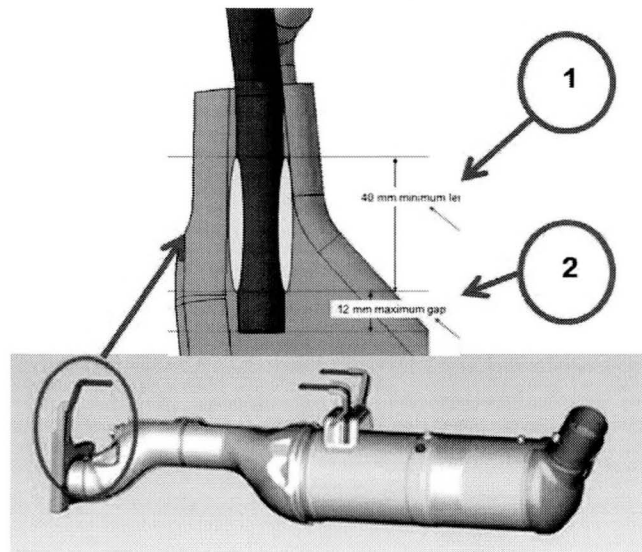

Fig. 1 SCR Hanger Bracket
2. Locate the SCR inlet hanger bracket (Fig. 1).